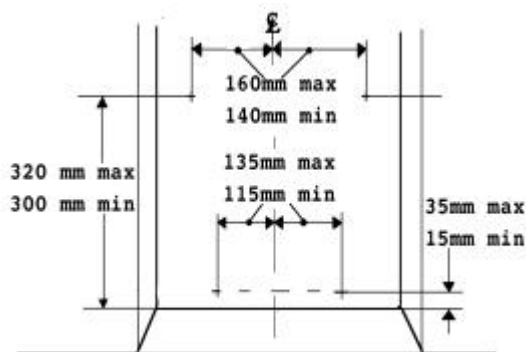

Fig. 16 Eyebolt positions
7.2.1 Drill four holes in the rear wall of the fireplace for the eyebolt plugs. The holes should be drilled within the range of positions shown in figure 16 using a no.12 masonry drill. The holes should be equidistant each side of the centre line of the fireplace to ensure that the appliance finishes centrally in the opening when tension is applied to the cables.